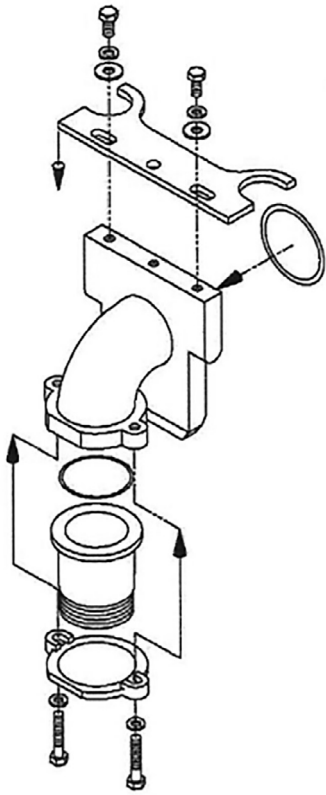
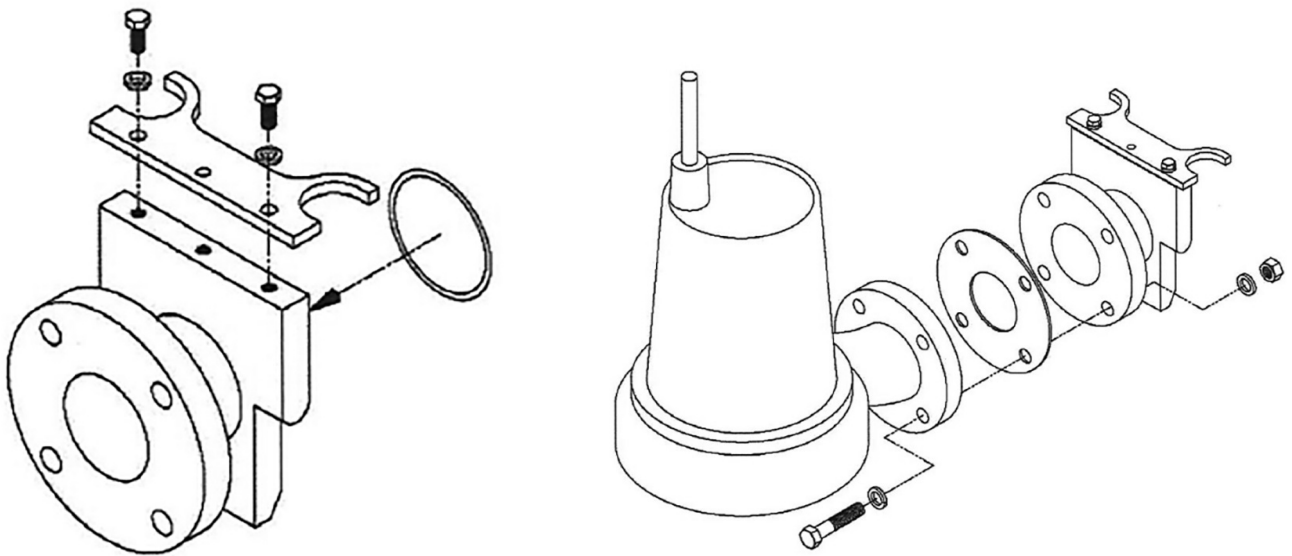

Figure 1
Figure 2
Figure 1 shows all the parts included with the pull-out flange assembly. This is the removable portion of the base elbow rail system assembly, and it is this assembly that will attach to the discharge of the pump (see figure 2). The threaded pump adapter flange will thread into the pump discharge as shown. The pump adapter flange is secured by tightening the two (2) long cap screws provided. This allows the pump to
Figure 1 shows all the parts included with the pull-out flange assembly. This is the removable portion of the base elbow rail system assembly, and it is this assembly that will attach to the discharge of the pump (see figure 2). The pull out flange will bolt to the pump discharge as shown. A gasket flange should be placed